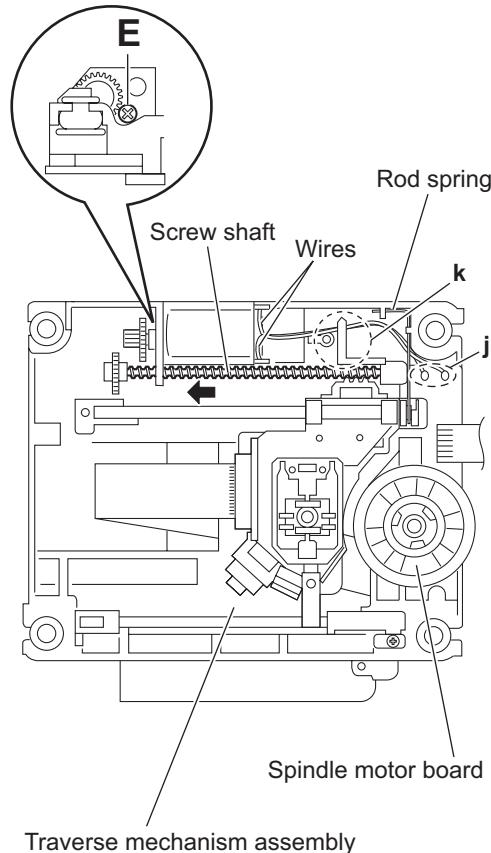

Fig.8
- (3) Remove the wires from the soldered section **j** on the spindle motor board. (See Fig.8.)
- When attaching the feed motor, pass the wire through the section **k** on the traverse mechanism assembly. (See Fig.8.)
- Pass the wire through the lower section of the rod spring. (See Fig.8.)
- (4) Remove the screw shaft in the direction of the arrow. (See Fig.8.)
- (5) From the side of the traverse mechanism assembly, remove the screw **E** attaching the feed motor. (See Fig.8.)
- (6) Take out the feed motor from the traverse mechanism assembly.
(See Figs.8 and 9)
- (1) From the top side of the traverse mechanism assembly, remove the wires from the soldered section **j** on the spindle motor board. (See Fig.8.)